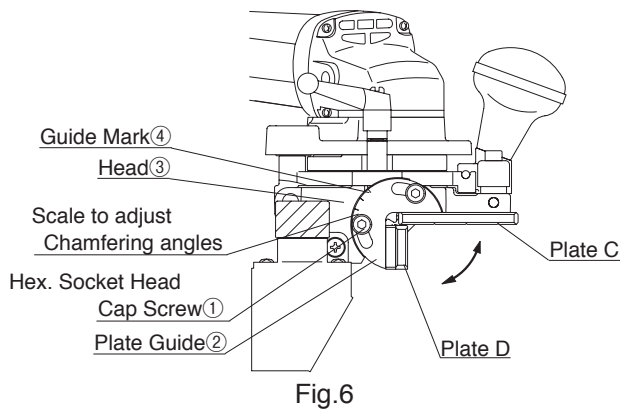

Fig.6
- (1) Loosen the Hex. Socket Head Cap Screws ① (4pcs) on both ends on the Plate Guide ② of Head ③ . (Fig.6)
- (2) Move the Plate Guide ② so that the scale of desired angle can align to the Guide Mark ④ .
- (3) Tighten the Hex. Socket Head Cap Screws ① .